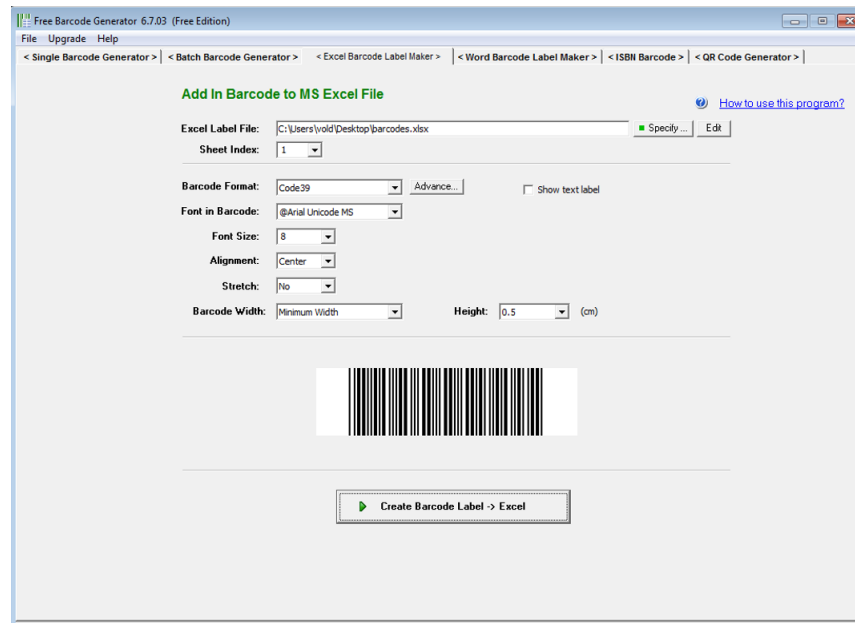

Figure 2: The Barcode generator is located on the desktop. When creating barcodes, set the format to 39 and the width to "Minimum".
3. Double click on the "Barcode Generator" icon on the desktop to open the user interface. Navigate through the top tabs until you are under "Excel Barcode Label Maker". The window should look like figure 2. Make sure the barcode file edited in the previous step is the one next to the barcode generator icon on the desktop.
4. In the Barcode generator, set the barcode format to "Code 39" and set the barcode width to "minimum width". Make sure all other settings match figure 2. Click "Create Barcode Label -> Excel".